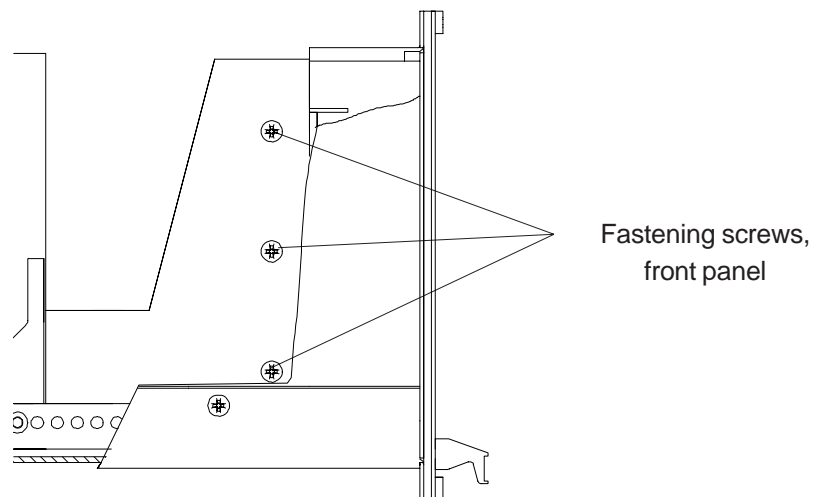

Fig. 21-2: BINOS® 100 2M
- Unscrew the 6 fastening screws at both housing sides (Fig. 21-2)